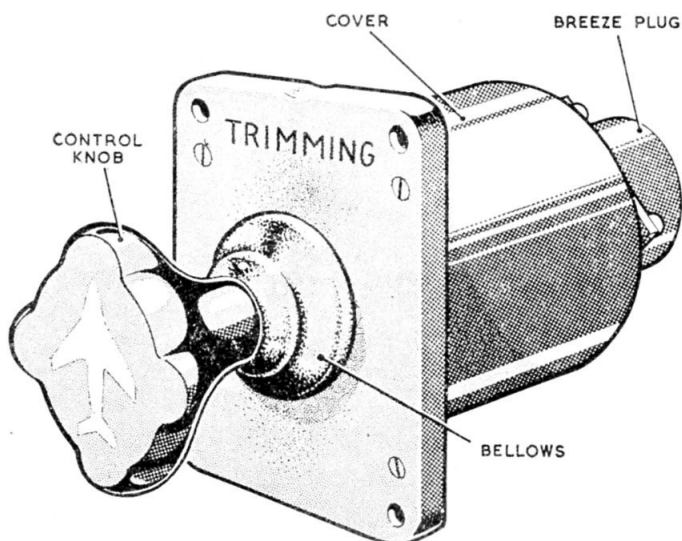

Fig. 1. Trim switch, Western, Type LS1621
1. The trim switch, Western, Type LS1621, is illustrated in fig. 1, and is used for switching the aileron, elevator and rudder trimming actuators on and off. It is for use only with actuators that have a split series motor.